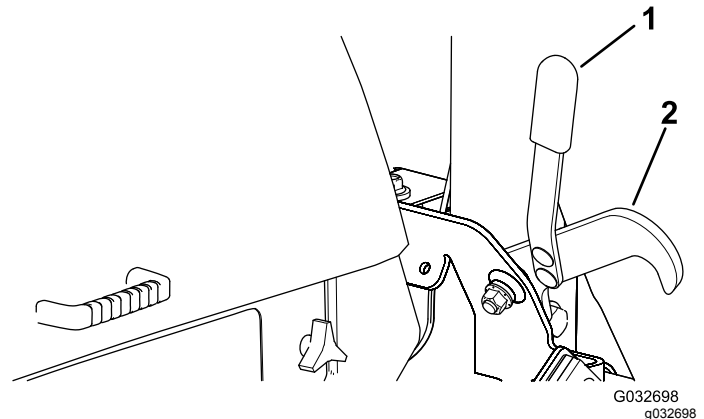

Figure 29
2. While sitting in the operator's seat, turn the ignition key to the RUN position (Figure 29).